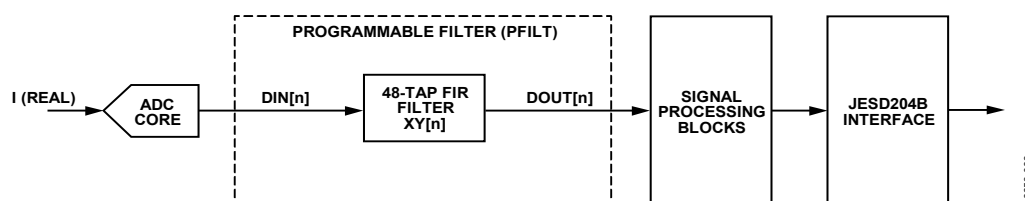

Figure 67. Real 48-Tap Filter Configuration
- Real 48-tap filter (see Figure 67)